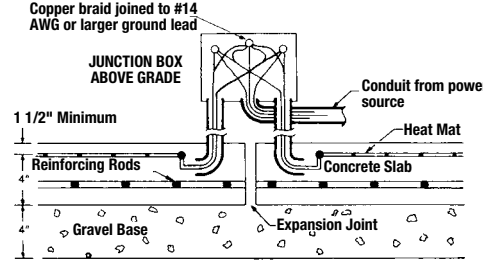

FIGURE 3
- When the slab can be walked on, splices of the junction boxes can be made and feeder lines installed if not done earlier. Twist together a length of the copper grounding braid from all leads and positively connect to a continuous No. 14 AWG, or larger, insulated copper wire extending to the distribution panel ground. (Figures 3 and 5).